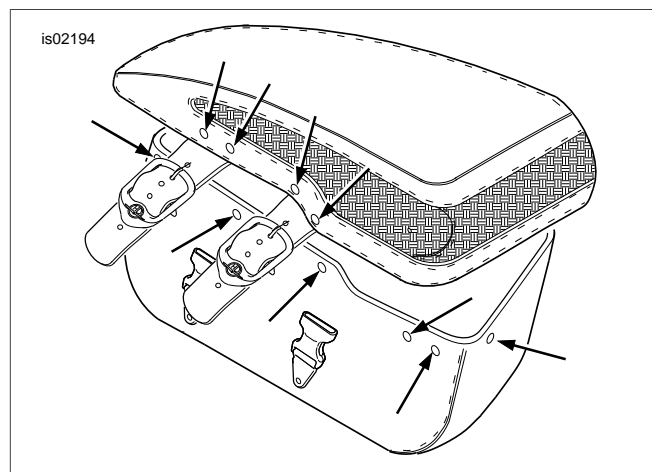

Figure 1. Rivet Positions in Saddlebag Lid and Base
1. See Figure 1. Using a 3/16 in. (5 mm) diameter drill bit, carefully drill out four rivets retaining buckle straps to saddlebag lid. Note front and rear strap, and set them aside.
3. See Figure 1. Using a 1/8 in. (3 mm) diameter drill bit, carefully drill six pilot holes in saddlebag base rim, using inner plate as a template.